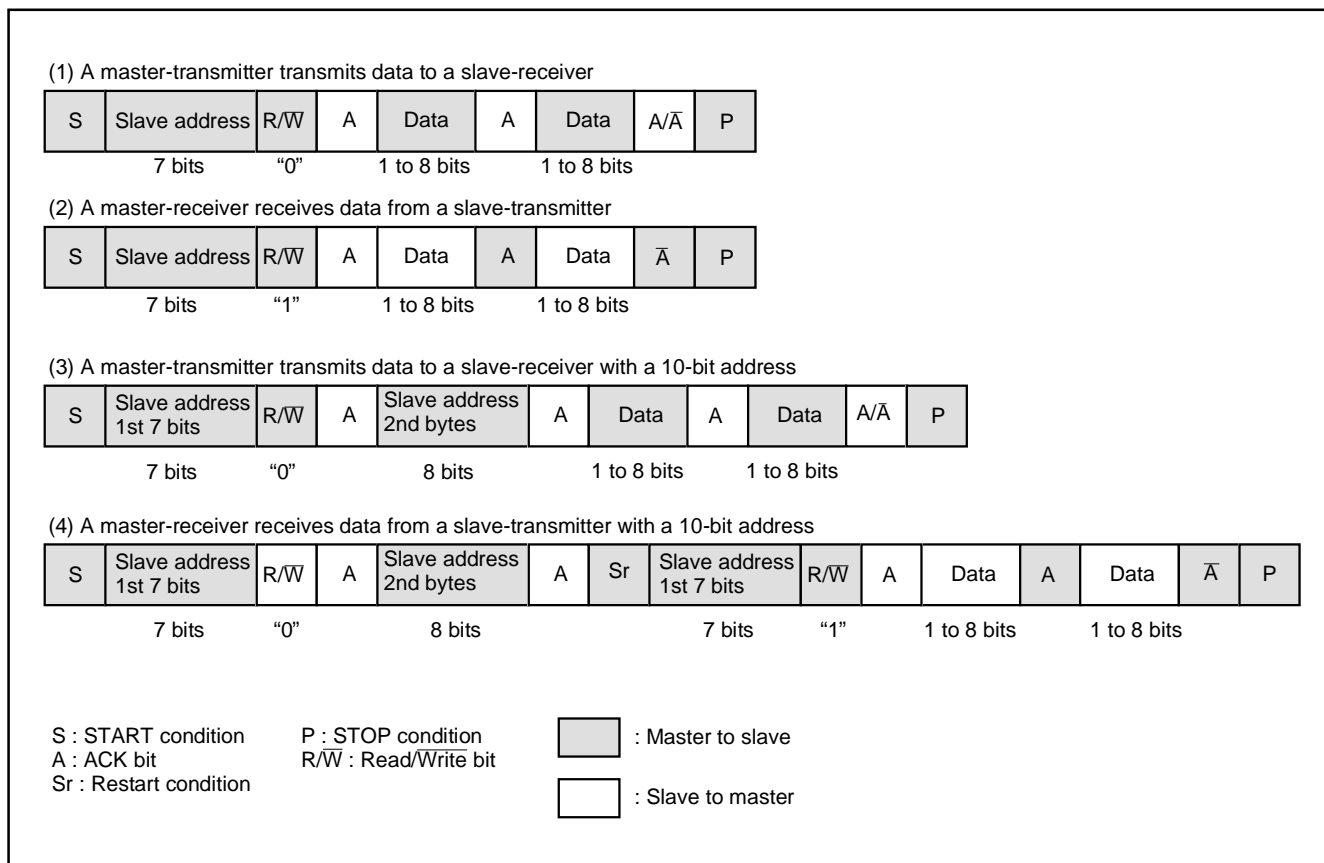

Fig. 69 Address data communication format
① 7-bit addressing format
To adapt the 7-bit addressing format, set the 10BIT SAD bit of the I2C control register (S1D: address 001416) to "0". The first 7-bit address data transmitted from the master is compared with the high-order 7-bit slave address stored in the I2C slave address register. At the time of this comparison, address comparison of the RWB bit of the I2C slave address register is not performed. For the data transmission format when the 7-bit addressing format is selected, refer to Figure 69, (1) and (2).
② 10-bit addressing format
When the first-byte address data agree with the slave address, the AAS bit of the I2C status register (S1: address 001316) is set to "1." After the second-byte address data is stored into the I2C data shift register (S0: address 001116), perform an address comparison between the second-byte data and the slave address by software. When the address data of the 2 bytes agree with the slave address, set the RWB bit of the I2C slave address register to "1" by software. This processing can make the 7-bit slave address and R $\bar{W}$  data agree, which are received after a RESTART condition is detected, with the value of the I2C slave address register. For the data transmission format when the 10-bit addressing format is selected, refer to Figure 69, (3) and (4).